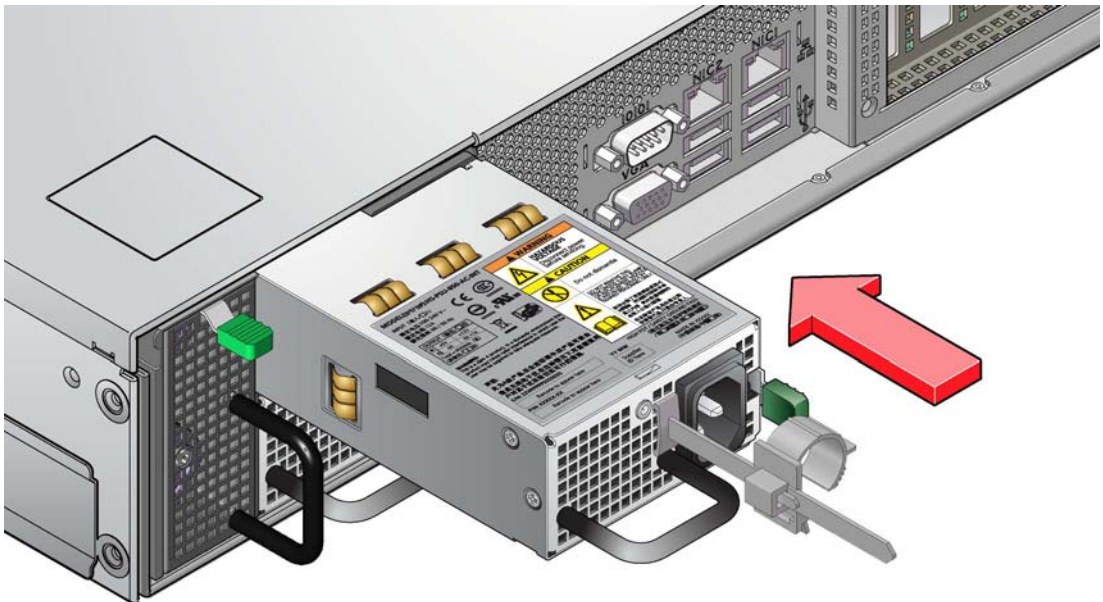

Figure 6–4 Installing a Power Supply Unit (1)
- 2 Slide the PSU into the mounting cage (Figure 6–4). A click indicates when the securing spring engages.